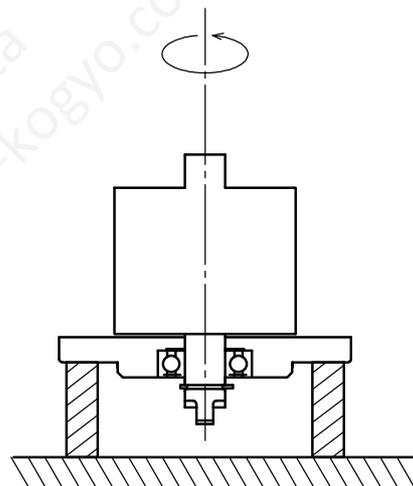

Fig.14
- ③ Remove Cylinder(69) and Vanes(70).
- ④ Take off Rotor(67) from the vice.
Place Rotor(67) with End plate(65) facing downwards as shown in Fig. 14, and check Rotor rotates smoothly.